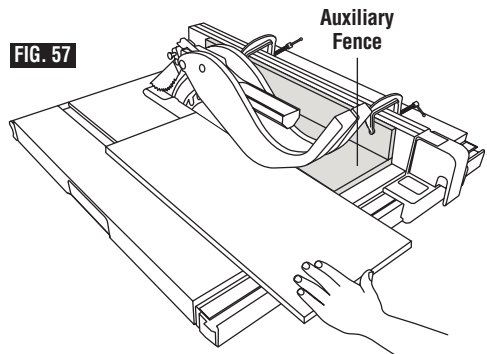

FIG. 57
Attach auxiliary fence to rip fence with two "C" clamps (Fig. 57).
2. For rabbeting along an edge (long way of workpiece) as shown, add facing to rip fence approximately as high as the workpiece is wide. Adjust rip fence and blade to required dimensions, then make first cut with board flat on table, follow set-up shown in Fig. 57. Make second cut with workpiece on edge. Follow all precautions, safety instructions, and operation instructions as for ripping or rip type operations, including featherboards and Push Stick, etc.